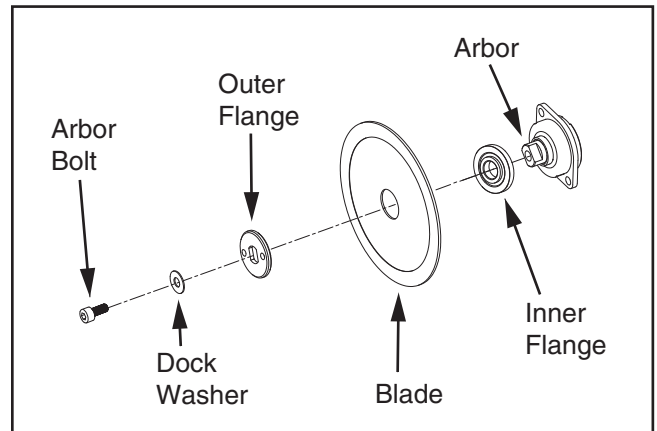

Figure 13. Installation order of blade and related components.
7. Using spanner wrench and hex wrench, install outer flange, washer, and arbor bolt, as shown in **Figure 13**. The flat side of outer flange faces AWAY from blade. The indented side faces TOWARD blade.